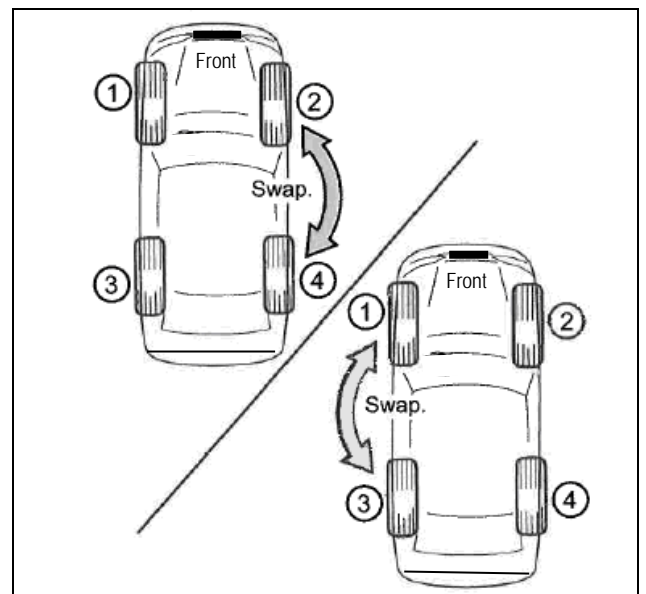

Figure 3
- a. Rotate tires 2 and 4 on the passenger side (Figure 3) and road test.